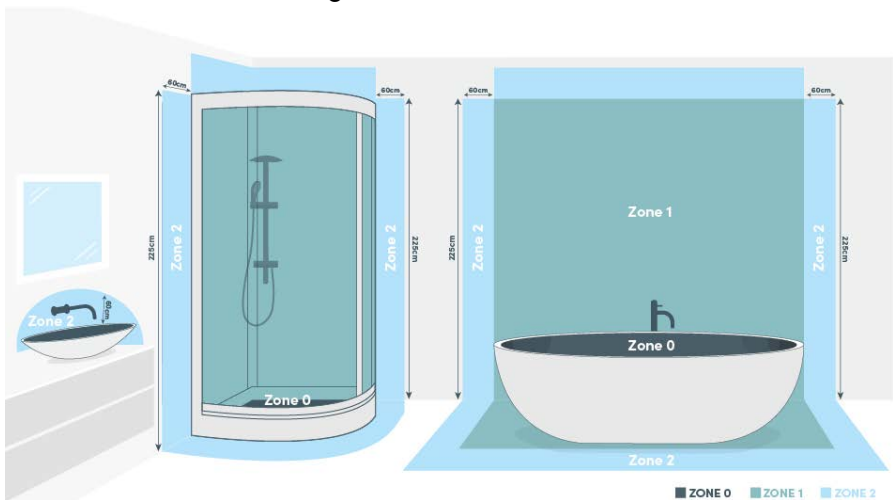

Figure 1 | Bathroom installation zones
- The element can be installed in bathrooms in Zone 2, but never in Zone 0 or Zone 1, as defined by applicable law, subject to any additional regulations concerning electrical installations in wet areas, as shown in **Figure 1**.